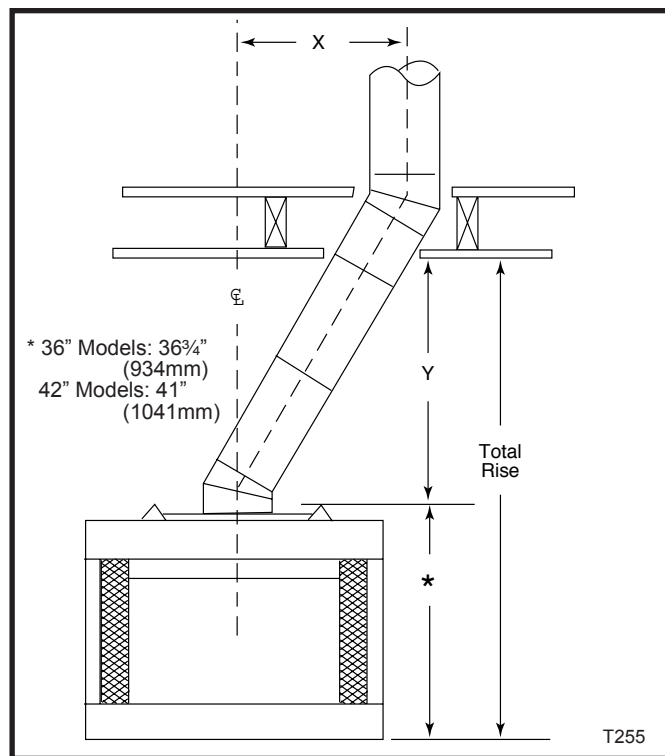

Fig. 13 Offset calculation.
Refer to Figure 13 for instructions if the flue-pipe will be offset below the ceiling level.
5. Refer to Figure 13 for offset calculation: Locate the center point of the flue on the ceiling with a plumb bob as shown on Page 5. The center of the correct location for the ceiling opening will be the amount of the offset dimension away from the ceiling nail. The "X" dimension in the drawing is the amount of the offset. Be sure to consider the direction that your offset will incline. To achieve the minimum offset, (see table), attach the return elbow to the first elbow. To achieve further offset, you may install various lengths of pipe between the elbows to a maximum length of 72" (1829 mm) without a flue support.